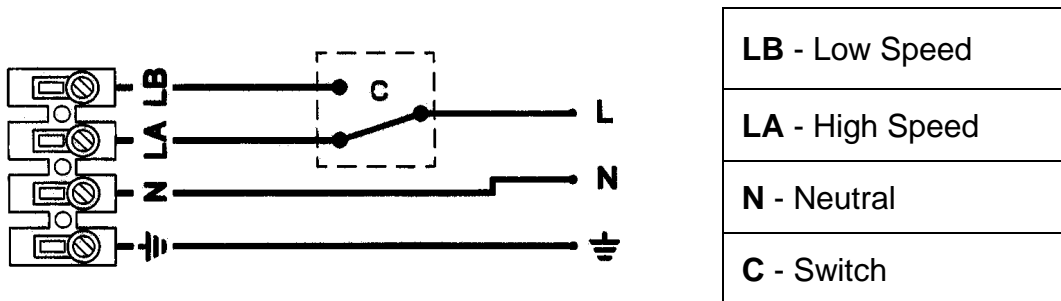

Fig. 1
4. A terminal box is incorporated to provide easy installation. The connection should be made according to Fig. 1